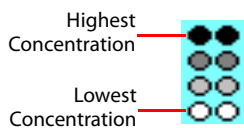

Figure 5-6: Concentration Representation in Dilution Series
3. Select a series operator, enter an operand, and select the appropriate dilution orientation (see Figure 5-6).